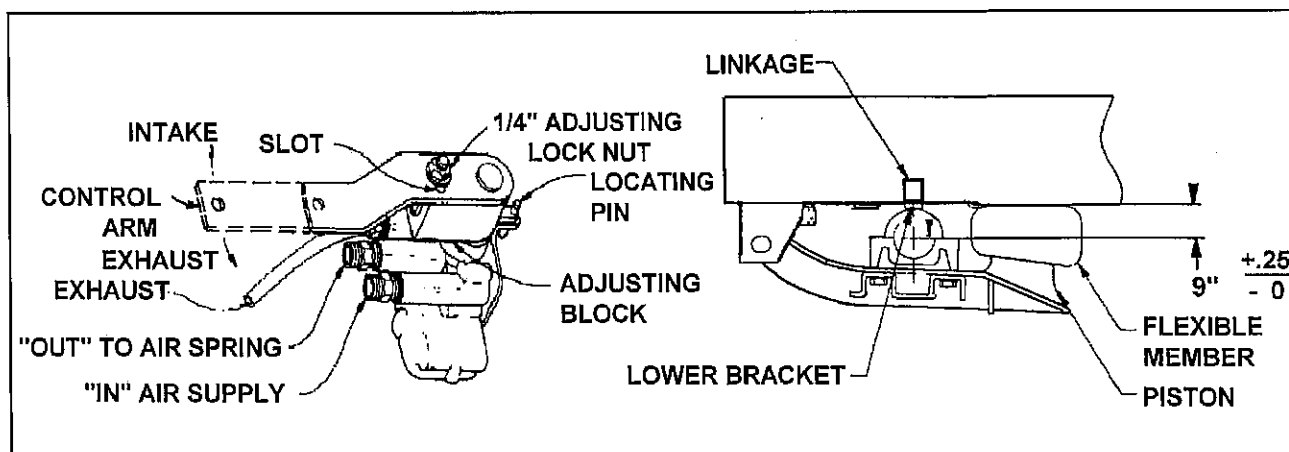

Fig. 4-6 Air Ride Adjustment
The following is the procedure for adjusting the air ride height (See Figure 4-6 for parts identification).
e. Move the control arms to the "down" position (about 45 degrees) for 10-15 seconds. Slowly return the arms to the center position and insert locating pins into the nylon block and bracket on the automatic height control valves (see Figure 4-6).